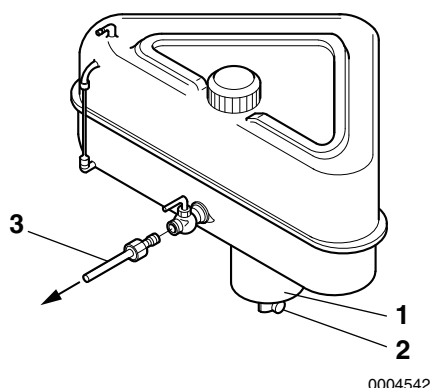

Figure 2
Install a drain cock (**Figure 2, (2)**) at the bottom of the fuel tank to remove water and contaminants from the sediment bowl (**Figure 2, (1)**).